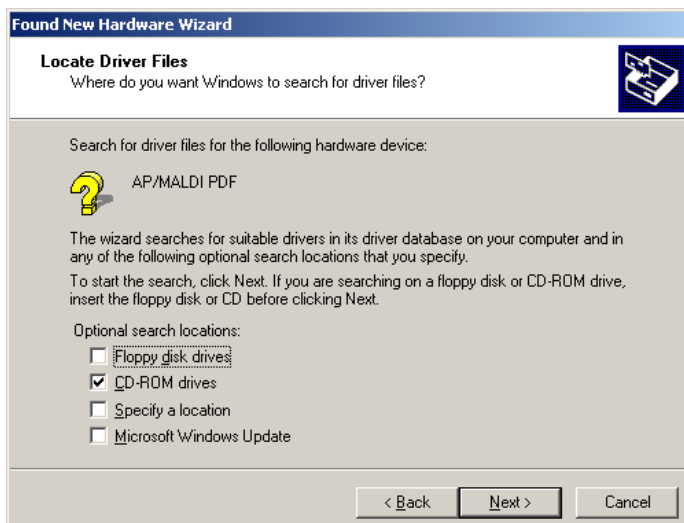

Figure 55 Select only the CD-ROM drives
- 6 Select only the CD-ROM drives as locations to search for the driver. Then click Next. See Figure 55.